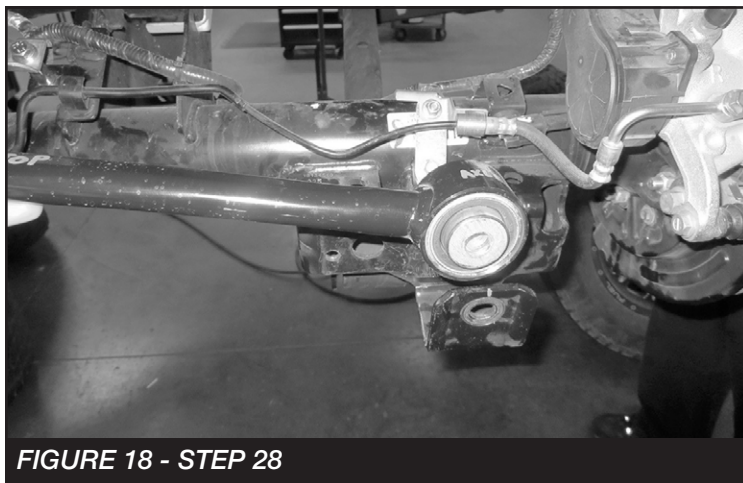

FIGURE 18 - STEP 28
28. Supporting the rear axle. Disconnect the rear track bar from the axle side bracket. Save hardware. **SEE FIGURE 18**